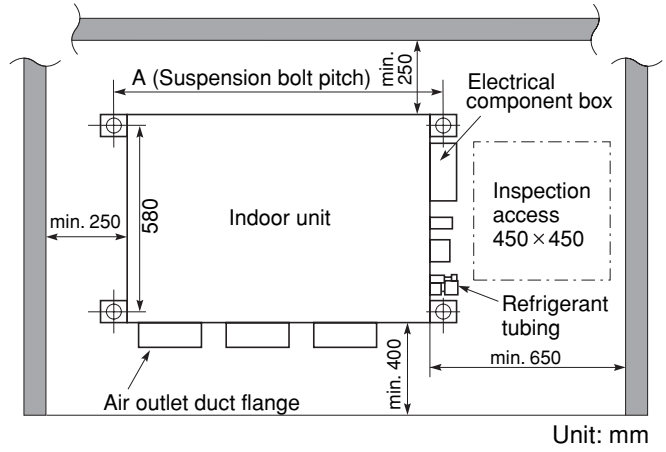

Fig. 3-56
- The minimum space for installation and service is shown in Fig. 3-56 and Table 3-3.
(Fig. 3-56 and Table 3-3)